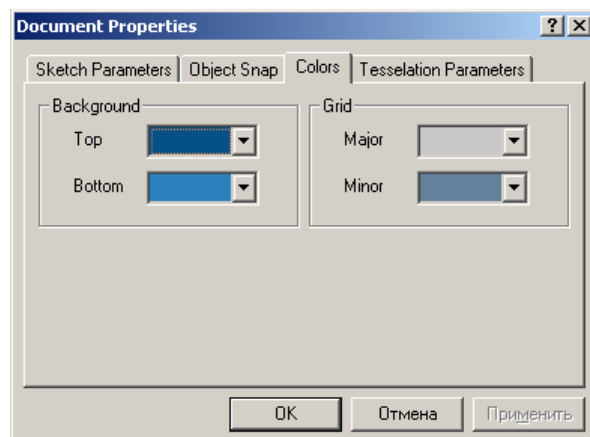

Fig. 3.3.3 Document Properties dialog box (Colors)
*Colors.* Making active this sheet (Fig. 3.3.3), you can establish color parameters of the editor window. Variation of background color of the editor window and color of a sketch grid is possible (Fig. 3.3.3).